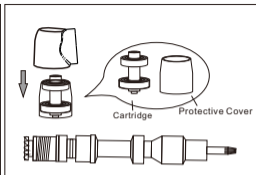

Fig. 1.4
3. Take the cartridge and cartridge set out ,replace the new cartridge. as shown in figure 1-4.
4. After Replacing the new cartridge ,use the loading tool to tighten the back cover and shaft , You must aim for insert of the fuselage, as shown in figure 1-4, tighten screw of the tail part